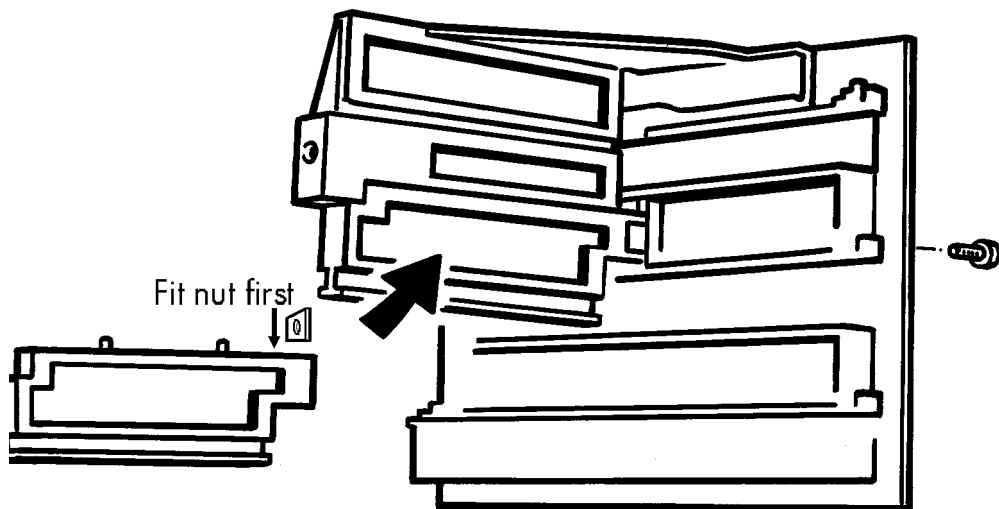

Figure 6 Fitting the circuit board guide extension
11. Slide the square nut into the slot in the extension board guide. Fit the extension board guide, securing it with the M3 x10 mm screw provided (figure 6).